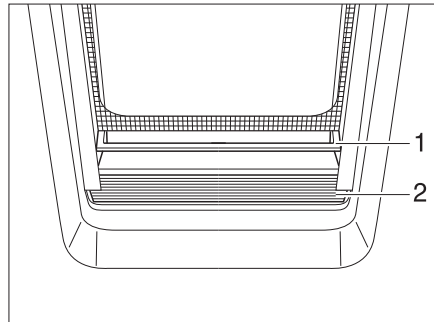

Fig. 47 Roman shade
- Grip the Roman shade (Fig. 47,2) in the middle of the holding bar (Fig. 47,1), pull it upwards and then release it at the desired height. The Roman shade will stay at this height.